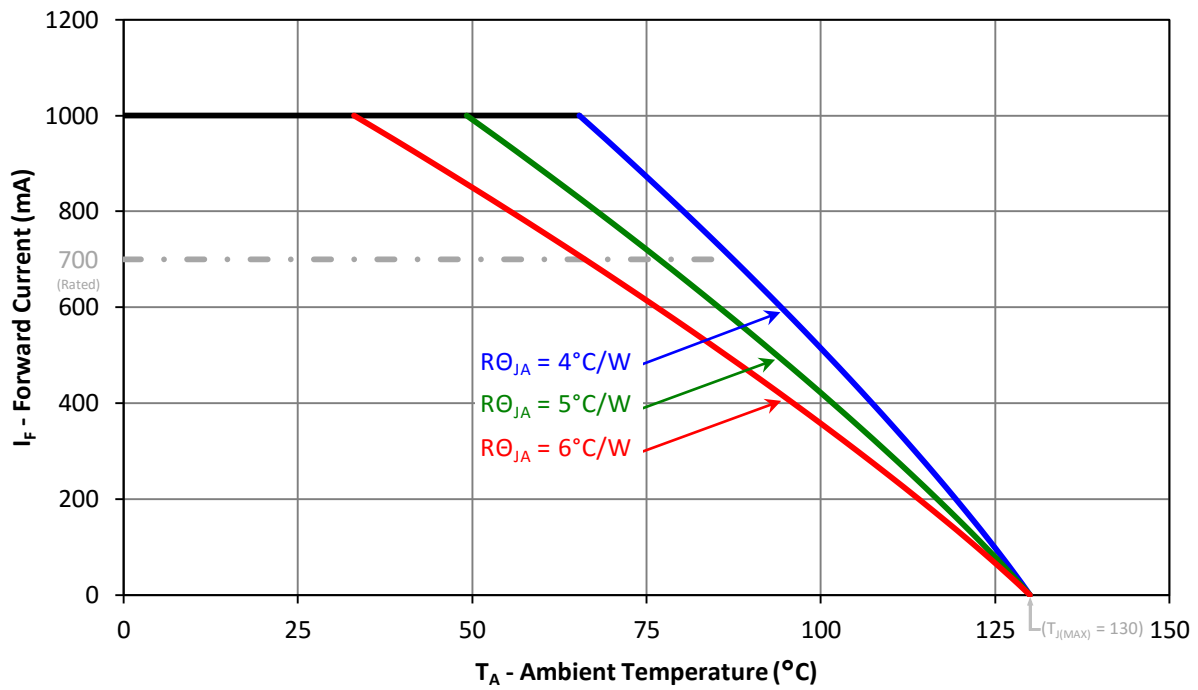

Figure 11: Maximum forward current vs. ambient temperature based on  $T_{J(\text{MAX})} = 130^{\circ}\text{C}$
1. Maximum DC forward current is determined by the overall thermal resistance and ambient temperature. Follow the curves in Figure 11 for current derating.
Notes for Figure 11: